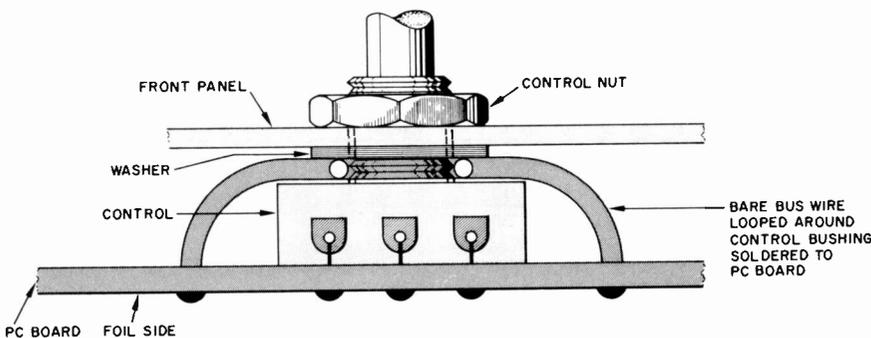

Fig. 4. How potentiometers are wired to board to provide support when mounted in case.
**Construction.** While there is nothing critical about the layout, construction is greatly facilitated if the pc board shown in Fig. 3 is used. The pc board is held in place by controls *R1* and *R3* which are fastened to the front panel of a small plastic case. If *S1* is attached to *R1*, it mounts through a suitable hole in the pc board. The controls are mounted to the board with short wire extensions from the terminals to the pertinent pc pads and with the bus wire straps shown in Fig. 4. The part specified for *R1* has a push-pull switch. Using this type of switch allows turning the Auto-Wiper on and off without changing the setting of *R1*.